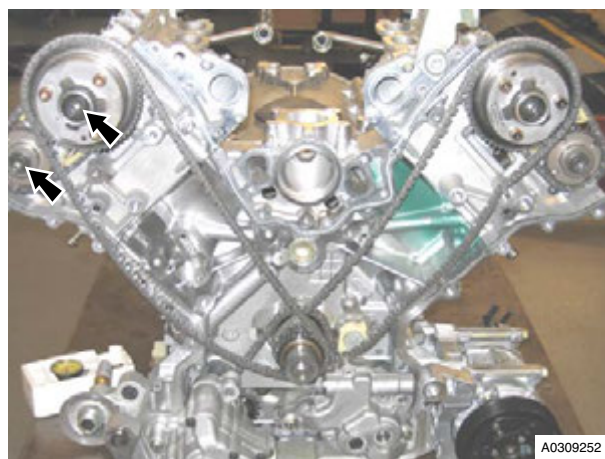

Figure 1
2. Remove the two Torx head bolts, (there is a spacer on the exhaust Torx bolt), that attach the inlet and exhaust camshaft sprockets to the camshafts (refer to Figure 1).